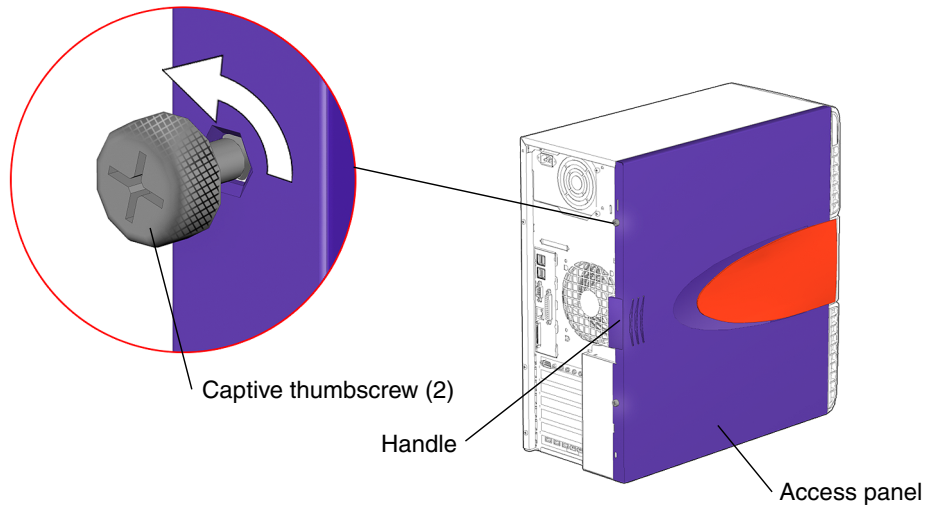

FIGURE 10-6 Loosening the Screws
3. **Loosen the captive thumbscrews (FIGURE 10-6).**